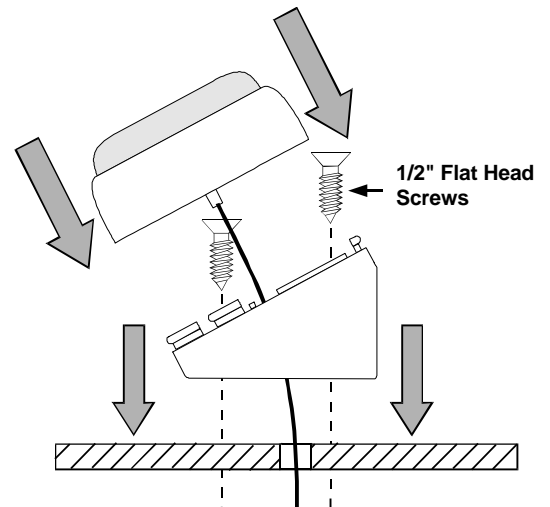

FIGURE 5
- 3) Mount the angle mount backplate with the two 1/2" flat head screws. See Figure 5.